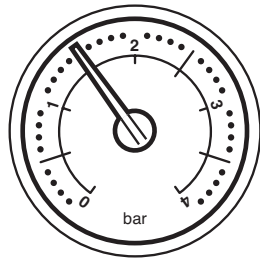

Fig. 4
1. The normal operating water pressure is between 1 and 2.5 bar (Fig. 4). If the pressure exceeds 3 bar the safety pressure valve will operate and a fault is indicated (Fig. 6). Contact your installer.